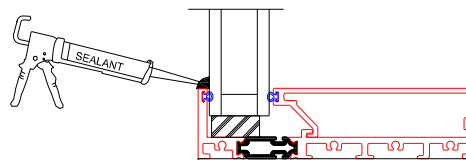

Figure 20:
2. After glazing, apply a continuous bead of sealant to the fixed frame leg and glass (Figure 20).